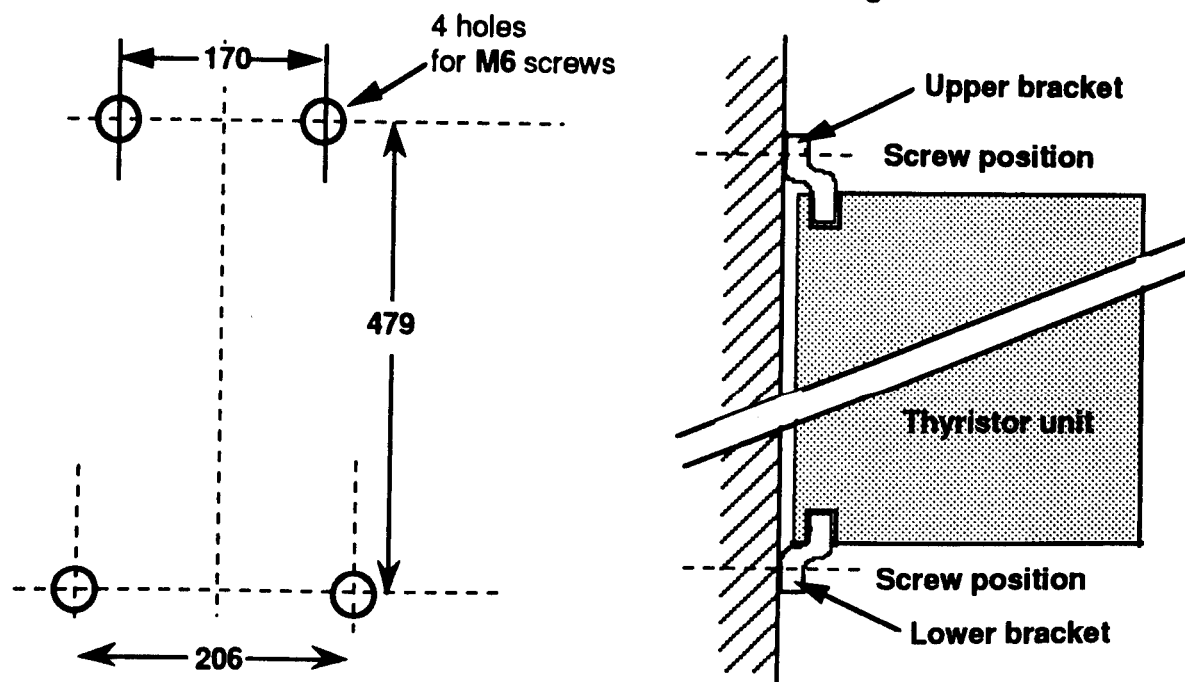

Figure 2.6. Drilling details and brackets position
- Fix the two brackets on the panel using **four M6** screws. Ensure that both the drilling dimensions and the position of the brackets (see fig. 2.6) are respected.